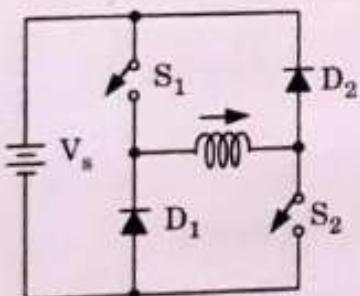

Fig. 3.6.2.
1. The circuit of Fig. 3.6.2 does not use bifilar winding but requires two switching devices and two feedback diodes in each phase.